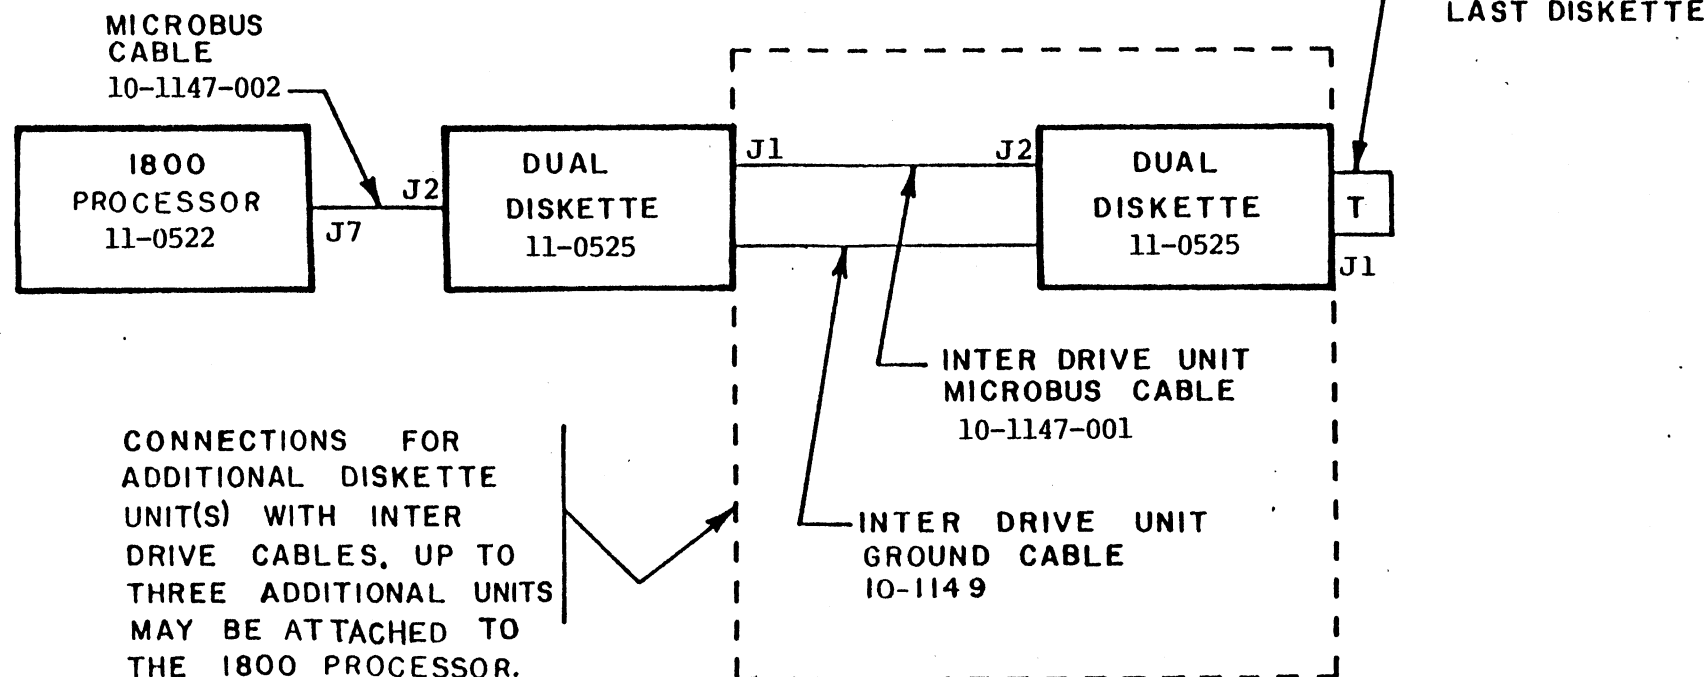

Figure 2-3. Connections for 1842 Dual Diskette Drive(s) to Processor
- c. If extension drive units are to be installed, then perform the following steps (Figures 2-3 and 2-4):
- (1) Set drive address for stacked drive(s) as follows (Paragraph 6.3):